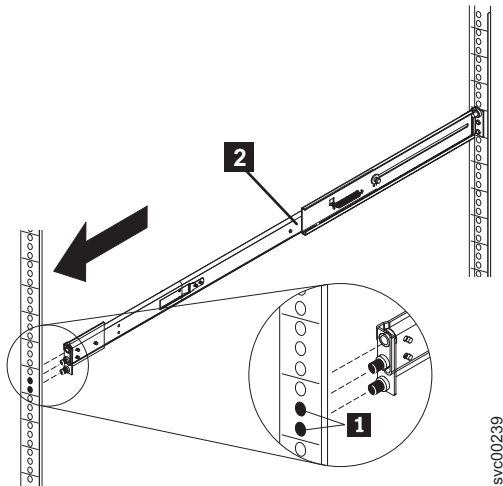

Figure 58. Extending the right slide rail
4. Extend the right slide rail **2** and insert it into the front rack mounting flange, as shown in Figure 58 on page 74, with the rail pins **1** protruding through the flange. Insert the left slide rail in the same way.